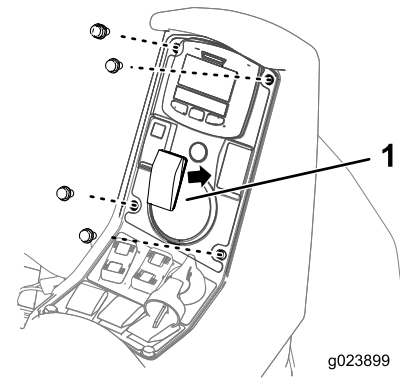

Figure 4
6. Install the on/off switch as shown in Figure 4.
**Foam on/off switch**—activates the compressor, generating a flow of foam to both of the boom sections simultaneously (Figure 4).